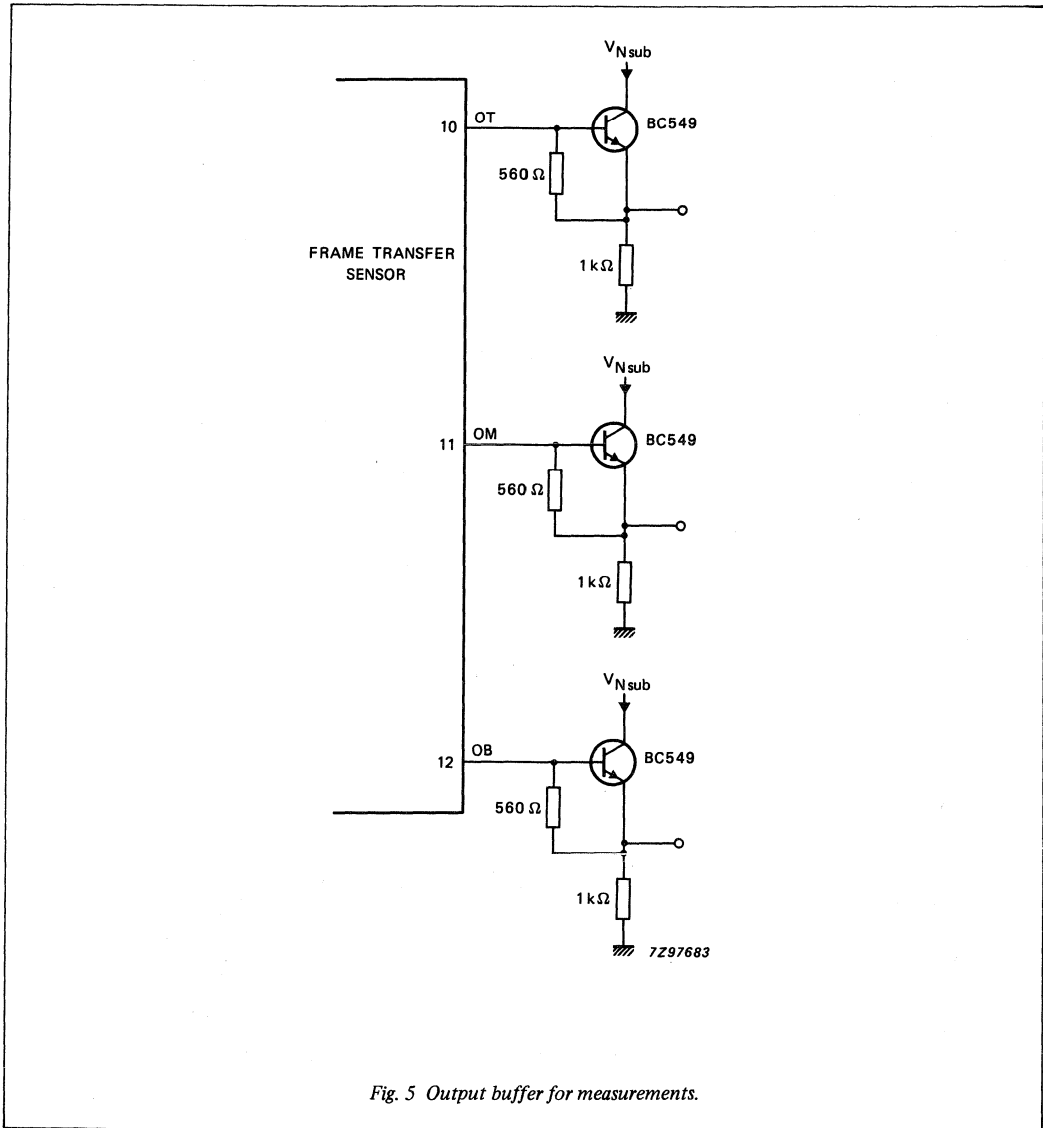

Fig. 5 Output buffer for measurements.
2. Measured with output buffer. See Fig. 5.
1. Measured with output buffer. See Fig. 5.